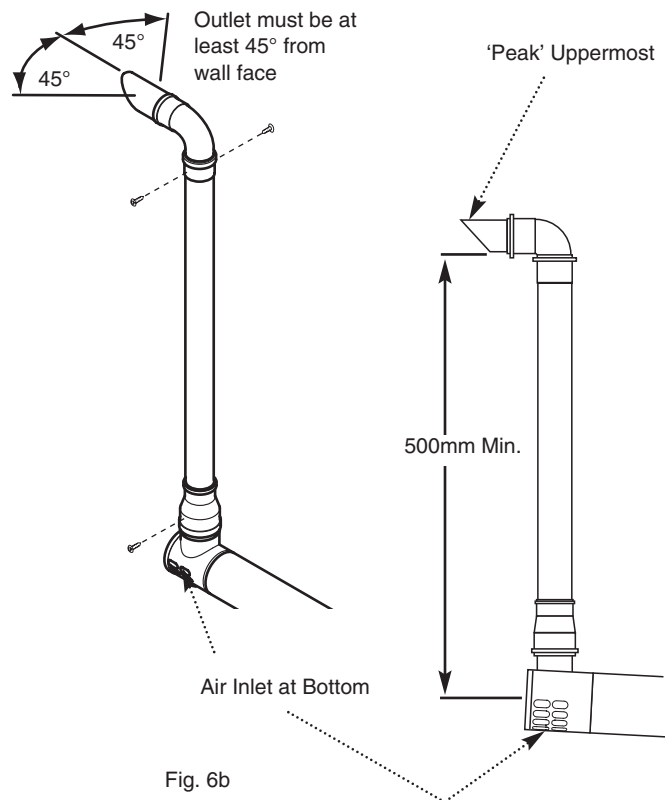

Fig. 6b
3. The plume outlet must always be at least 45° to the wall, with the 'peak' uppermost to prevent rain entry (Fig. 6b), and be at least 2 metres above ground level. It must be secured with the support brackets. The plume outlet must also be at least 500mm from the air inlet in any direction (Fig. 6b).